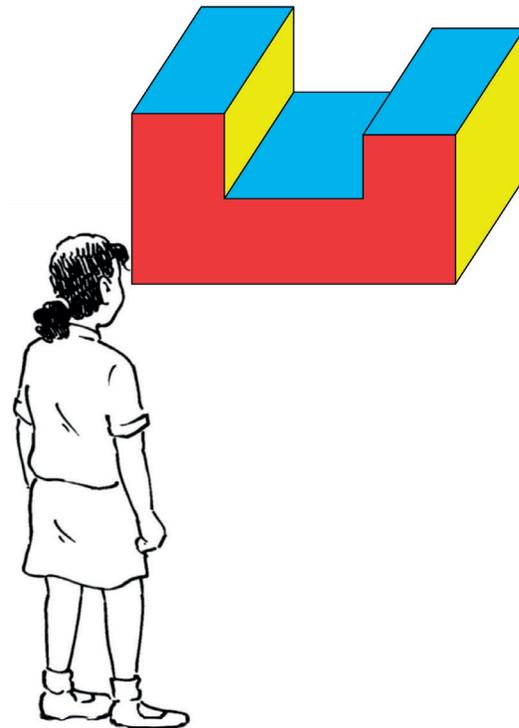

Figure 11
1. Look at Figure 11 on the previous page. The learner only sees the red part of the block. Make a sketch of the red part on grid paper.